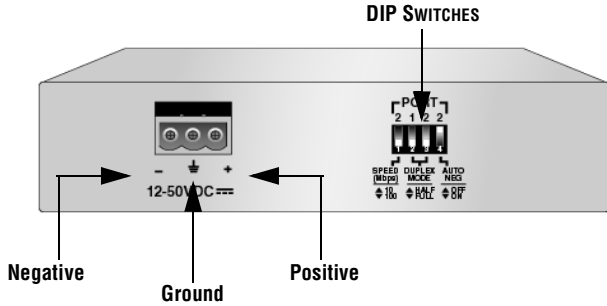

Figure 9 Positive, Ground, and Negative Symbols
2. On the rear side of the chassis is a 3-prong receptacle connector labeled 12-50VDC. Starting from the left side of the terminal block, identify the **negative**, **ground**, and **positive** terminals using either the diagram adjacent to the terminal block or the illustration shown in Figure 9 on page 20.